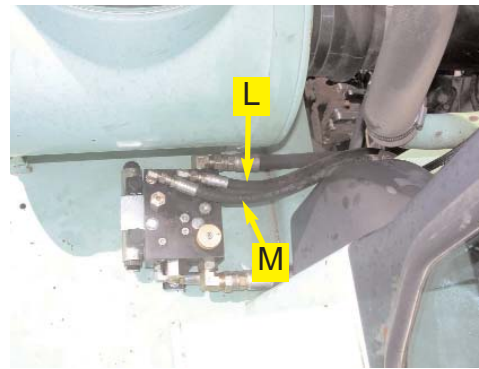

Figure 6a. Installed steering hoses at automated steering block.
- a. Connect the hydraulic steering hoses (**L** & **M**) from the **A** and **B** ports on the automated steering block to the branches on the steering cylinder run tees (**G**). (Figure 6a., 6b., 6c. and 6d.)